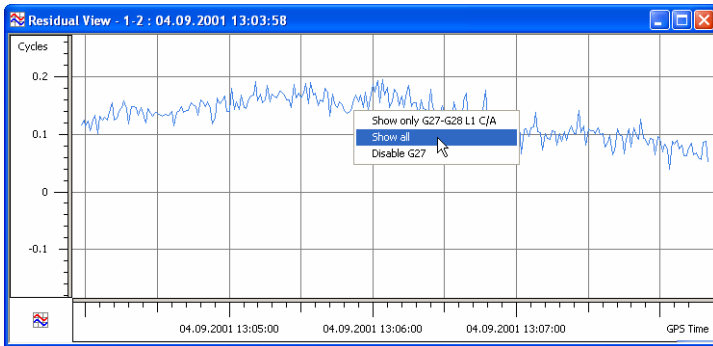

Figure 11-14. Viewing Only One Plot
- To display double difference residuals, select **Show Only** <name of pair> (Figure 11-14).